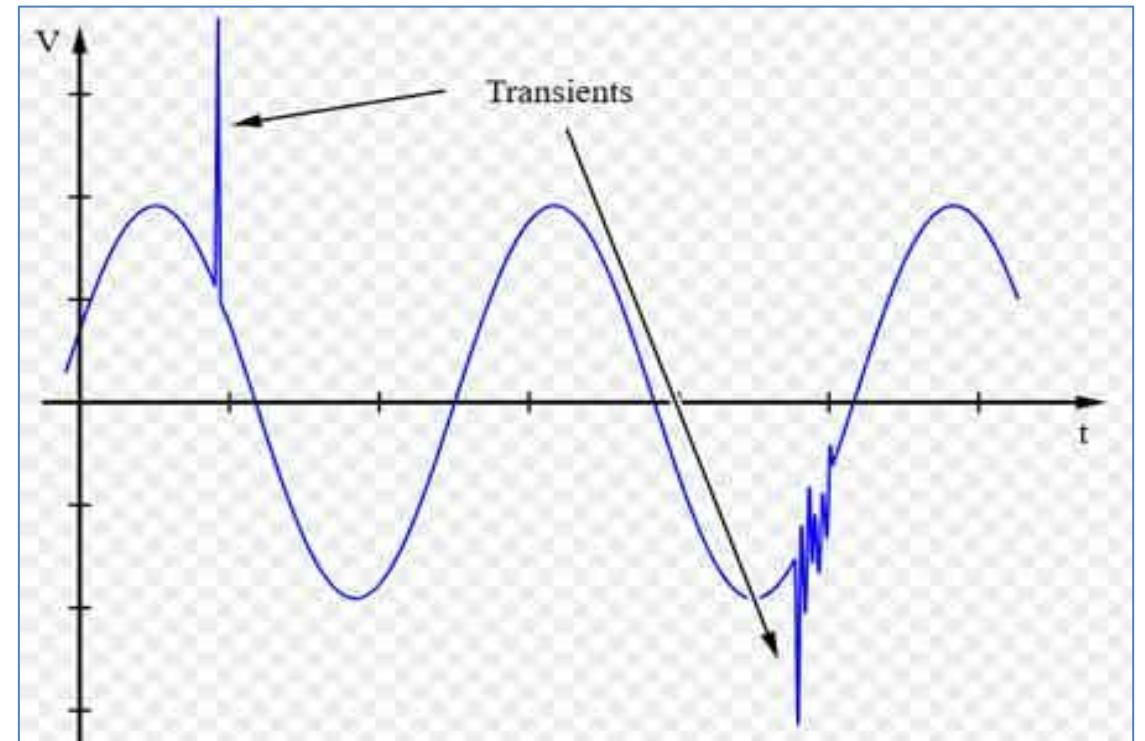

Figure 1: Transient Phenomena.
- As shown in **Figure 1**, transient refers to a high amplitude, short duration, and a high frequency electrical spike.